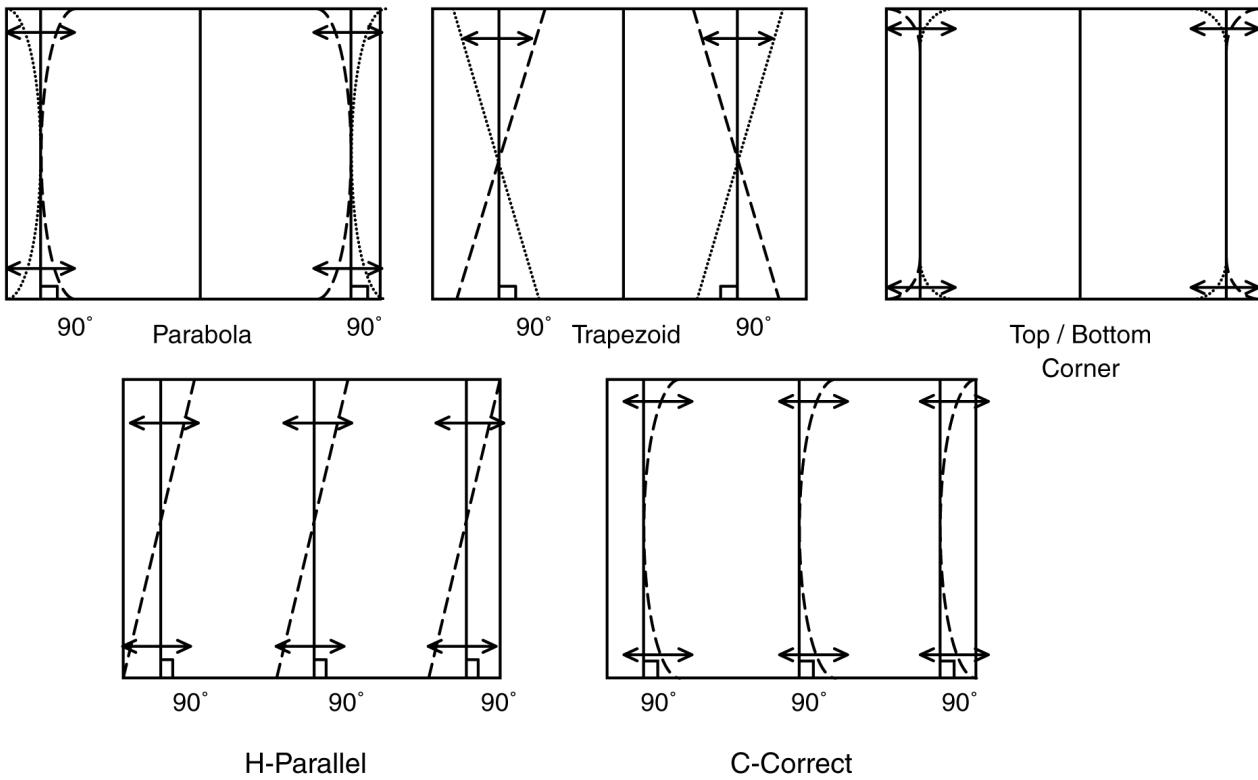

Fig. 19
2. Adjust V-AMP (60P / 4:3) so that B, D (Fig. 19) is  $1 \pm 0.1$ .